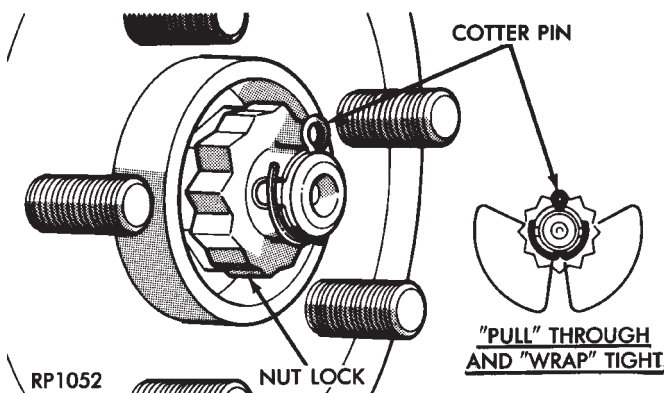

Fig. 77 Installing Spring Washer, Nut Lock And Cotter Pin
- (14) Install the spring washer, hub nut lock, and a **new** cotter pin. Wrap cotter pin prongs tightly around the hub nut lock (Fig. 77).
- (15) Install front wheel and tire assembly. Install front wheel lug nuts and tighten in correct sequence. Then tighten to a torque of 129 N·m (95 ft. lbs.).
- (16) Lower vehicle.